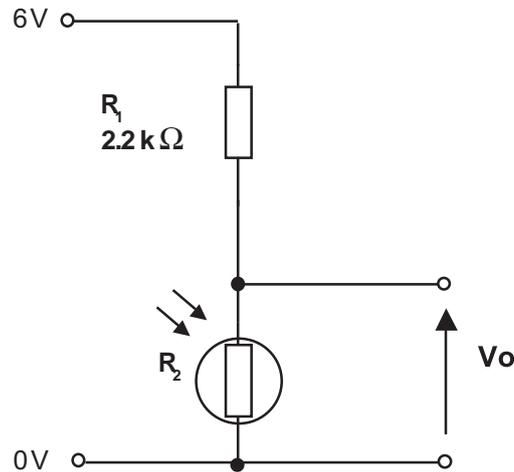

Fig. 9(a)
9 (a) Fig. 9(a) shows a voltage divider circuit.
- (i) Resistor R_1 shown in Fig. 9(a) is taken from the E12 series. State what is meant by the term E12 series. [2]